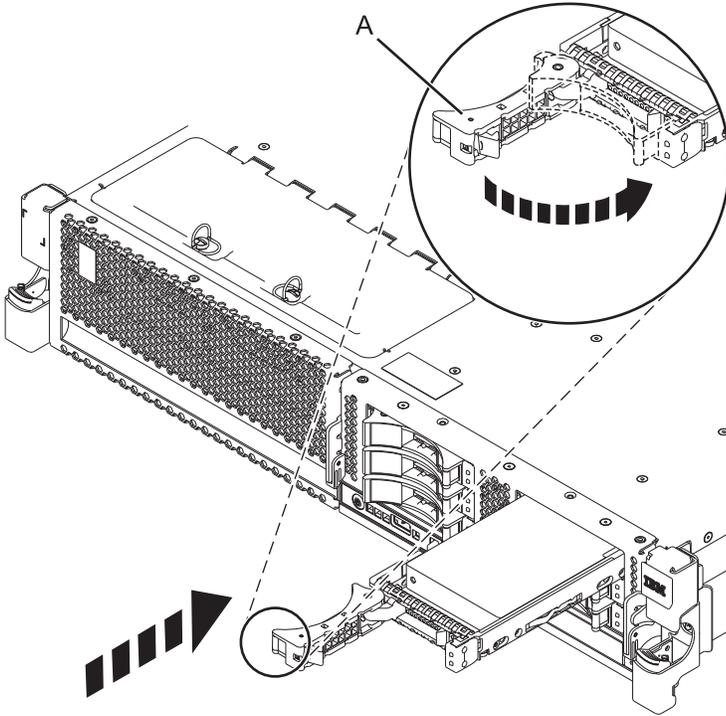

Figure 30. Installing a disk drive in the 8231-E2B, 8231-E1C, or 8231-E2C
11. When the service indicator starts flashing, slide the disk drive all the way into the system or expansion unit, and push the disk drive handle (A) in until it locks, as shown in Figure 30 on page 64.